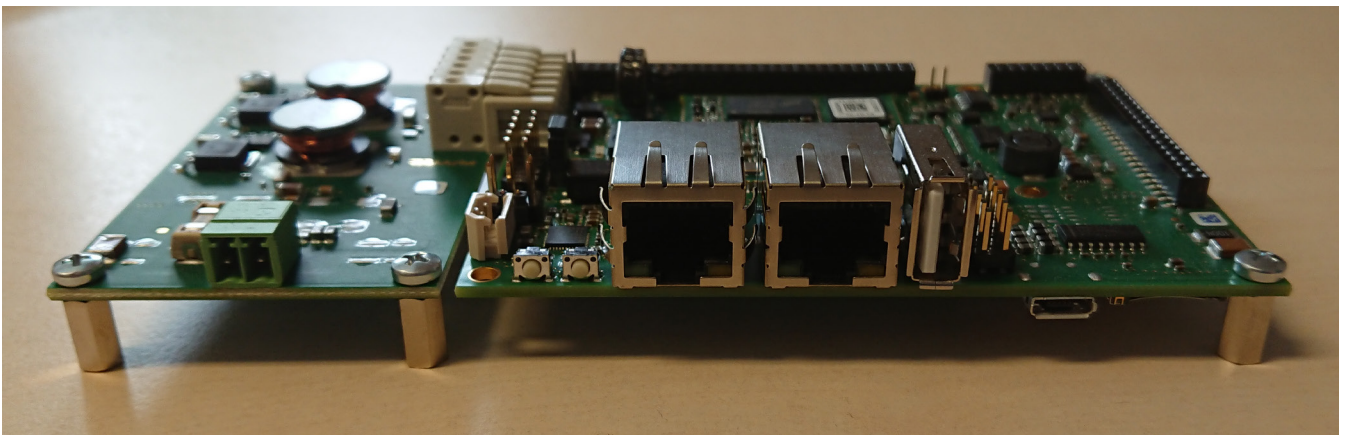

Figure 1: *phyBOARD-Segin with standoffs*
- All boards have 9 mm standoffs mounted (See Figure 1).